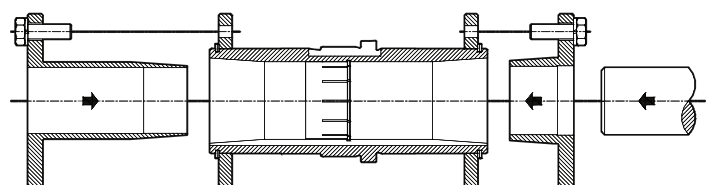

Figure 6 - Short Shaft Bushing and Output Hub Assembly
2. The long bushing is designed to be installed from the side of the reducer opposite the driven equipment as shown in Figure 6. The long bushing when properly installed is designed to capture the end of the customer shaft that does not extend through the reducer. Normally the reducer would be mounted such that the input shaft extends from the side of the reducer opposite the driven equipment however the reducer design allows installation of the reducer to be mounted in the opposite direction.
3. Install the tapered bushing wedge into the hollow bore of the reducer from the same side as the long bushing will be installed. When installing the tapered bushing wedge into the reducer hub, install the flange end first so that the thin taper is pointing outwards towards the long bushing as shown in Figure 6. The wedge is properly installed when it snaps into place in the reducer hub.